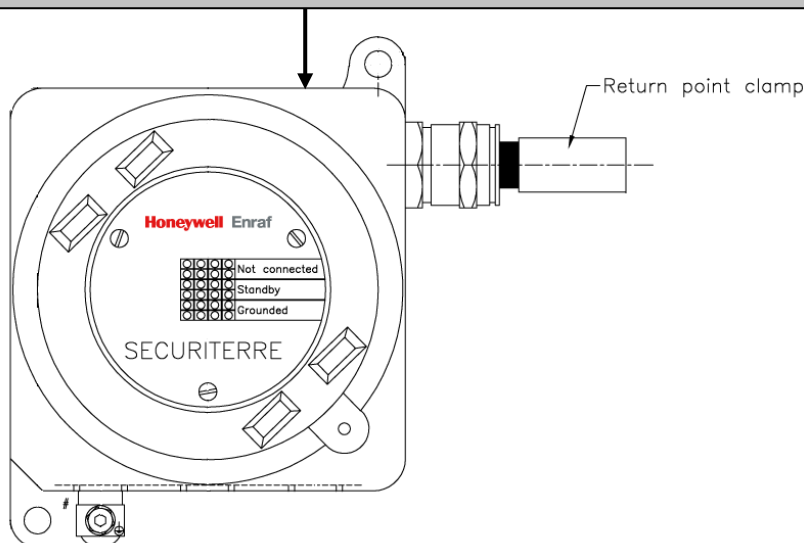

Figure 3.3
- Briefly place the brine magnet on the red dot located on the top side of the Securiterre, see figure 3.3 below. The instrument should now respond within a couple of seconds indicating successful grounding, do not remove the clamp during use of the brine magnet. Remove the magnet after successful grounding.